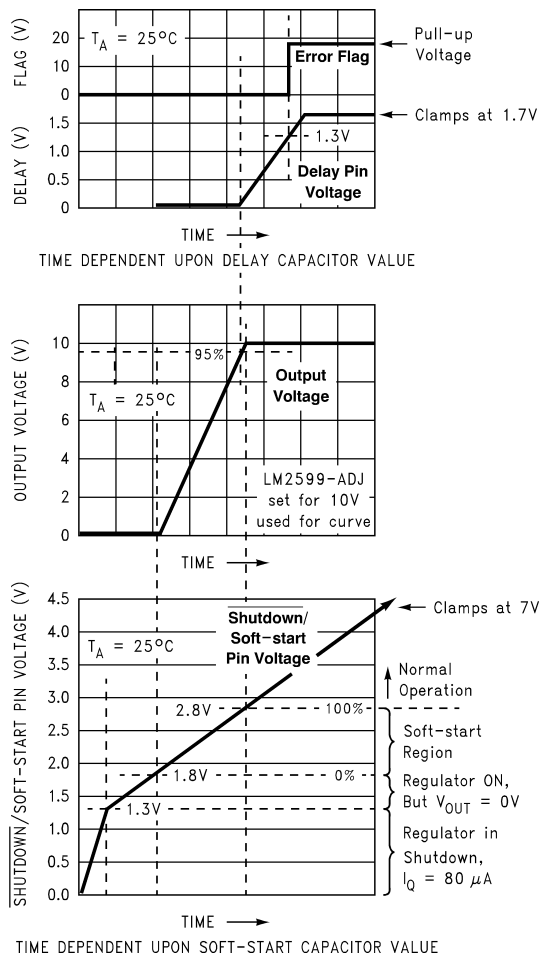
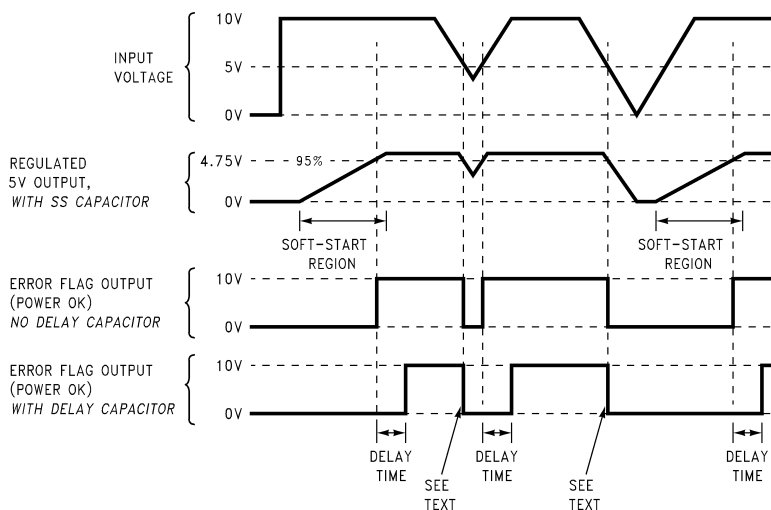

Figure 28. Soft-Start, Delay, Error, Output
Figure 29. Timing Diagram for 5-V Output
The capacitor on this pin provides the regulator with a soft-start feature (slow start-up). When the DC input voltage is first applied to the regulator, or when the Shutdown/Soft-start pin is allowed to go high, a constant current (approximately 5 μ A) begins charging this capacitor). As the capacitor voltage rises, the regulator goes through four operating regions (see the bottom curve in Figure 28):
3. Soft-start Region: When the $\overline{SD/SS}$ pin voltage is between 1.8 V and 2.8 V (at 25°C), the regulator is in a soft-start condition. The switch (Pin 2) duty cycle initially starts out very low, with narrow pulses and gradually get wider as the capacitor $\overline{SD/SS}$ pin ramps up towards 2.8 V. As the duty cycle increases, the output voltage also increases at a controlled ramp up (see the center curve in Figure 28) The input supply current requirement also starts out at a low level for the narrow pulses and ramp up in a controlled manner. This is a very useful feature in some switcher topologies that require large start-up currents (such as the inverting configuration) which can load down the input power supply.
The lower curve shown in Figure 28 shows the soft-start region from 0% to 100%. This is not the duty cycle percentage, but the output voltage percentage. Also, the soft-start voltage range has a negative temperature coefficient associated with it. See the soft-start section in Electrical Characteristics – All Output Voltage Versions.
This capacitor provides delay for the error flag output (see Figure 28 and Figure 29). A capacitor on this pin provides a time delay between the time the regulated output voltage (when it is increasing in value) reaches 95% of the nominal output voltage, and the time the error flag output goes high. A 3- μ A constant current from the delay pin charges the delay capacitor resulting in a voltage ramp. When this voltage reaches a threshold of approximately 1.3 V, the open-collector error flag output (or power OK) goes high. This signal can be used to indicate that the regulated output has reached the correct voltage and has stabilized.